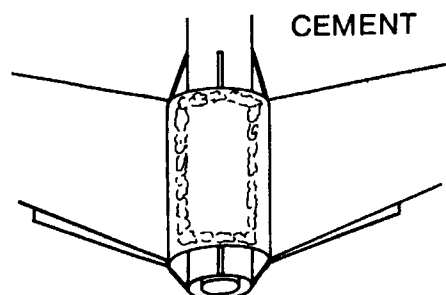

FIG. 12
- I Spread contact cement in a rectangular pattern, between the two wings (as shown in Fig. 12). Spread contact cement around the perimeter of the bottomside of the Small Body Panel, and allow to set for 10 minutes. Then press firmly into place, between the two wings.